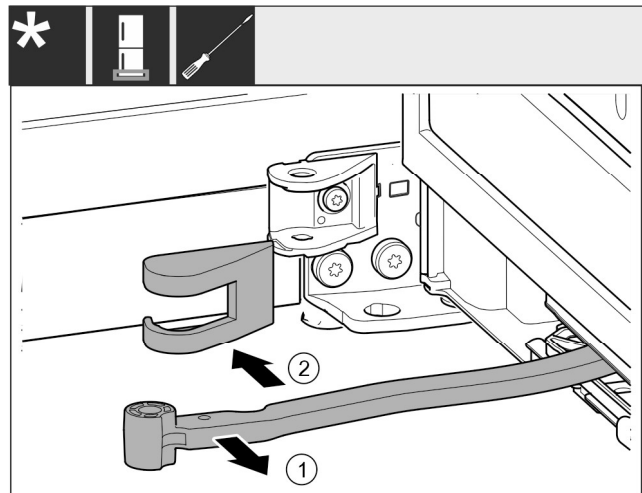

Fig. 17
- ▶ Turn the joint *Fig. 17 (1)* towards the door.
- ▶ Remove the swap bearing block cover *Fig. 17 (2)*.